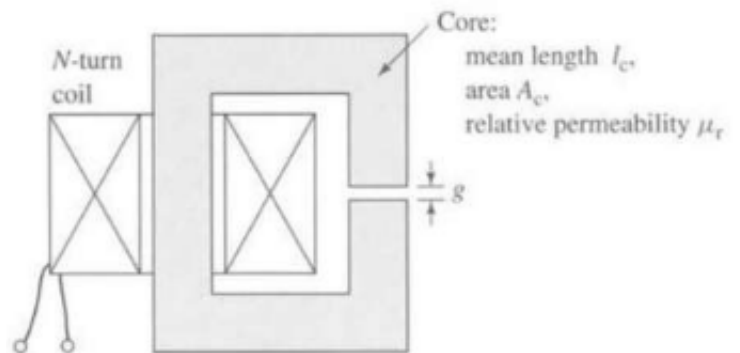

Figure 5
- **Question 10:** The inductor of Fig. 5 has following dimensions.